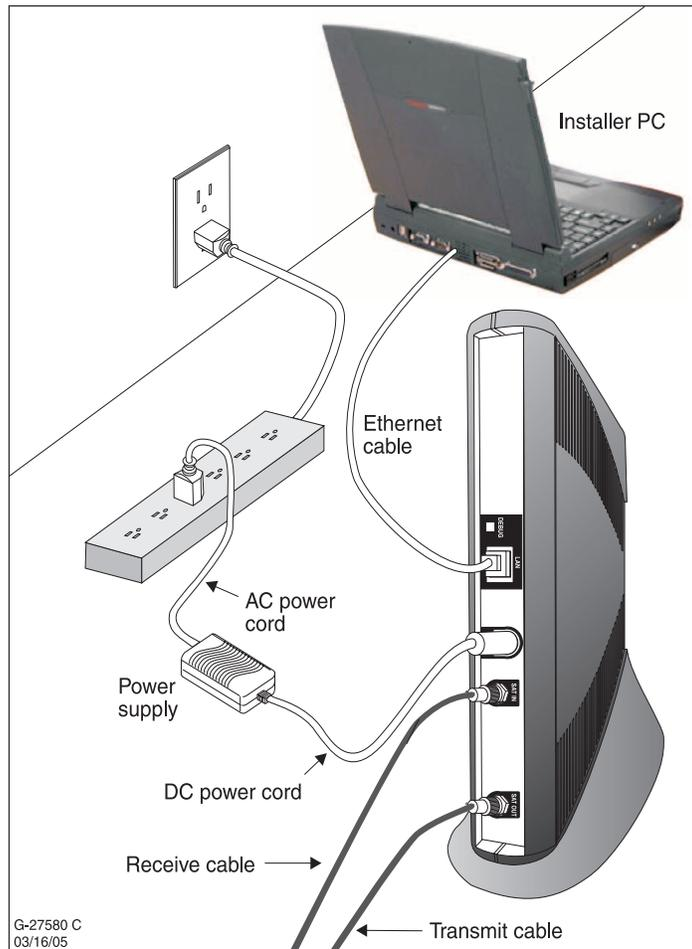

Figure 10: Connecting component cables
Refer to Figure 10 and complete the steps in this section to connect component cables.
2. Connect the installer PC to the remote terminal with an Ethernet cable. Make sure an Ethernet router or switch is not currently connected to the remote terminal and the customer's computer. See Figure 10.